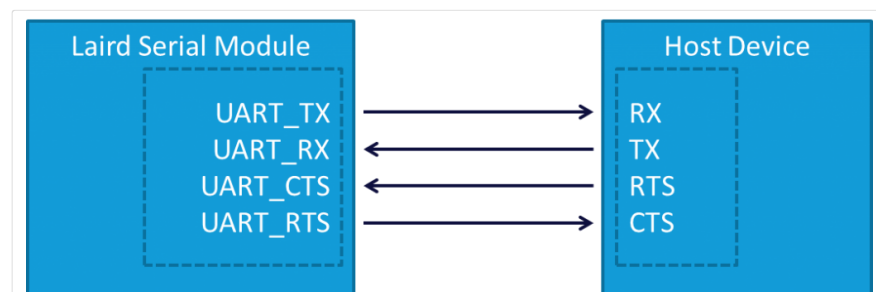

Figure 1: Recommended minimum UART wiring with correct use of CTS/RTS (recommended).
1. Make proper use of flow control (highly recommended), see Figure 1.
1. Use proper CTS/RTS flow control (highly recommended, see Figure 1).
2. Make proper use of CTS/RTS flow control (highly recommended), see Figure 1.